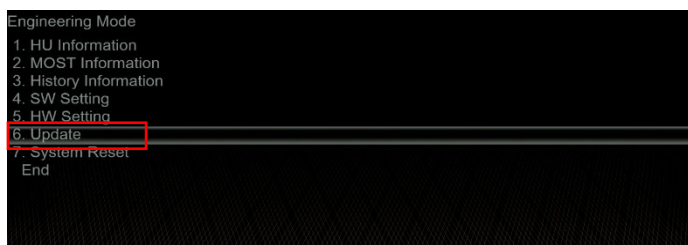

Figure 9
18. Select '6. Update' (refer to Figure 9).